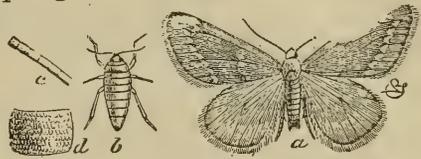

Fig. 152.—Fall canker worm.
1. **Stages of development.** Fig. 152.